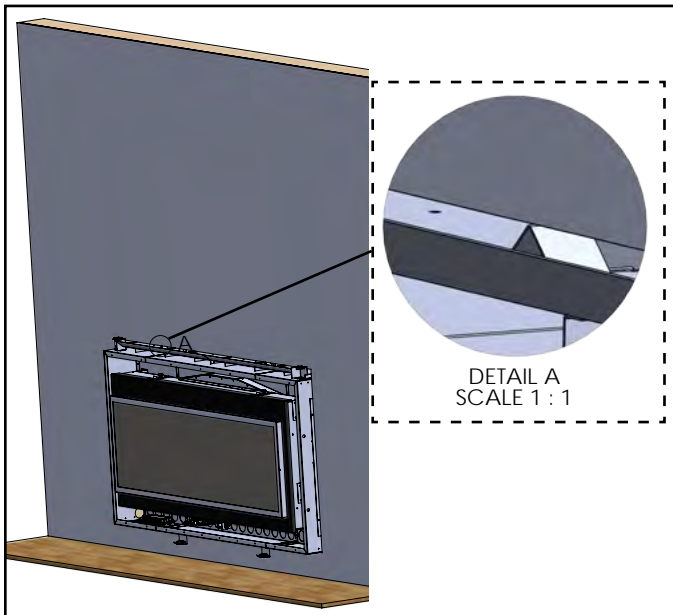

Figure 15.0.03
**Note:** The wallboard should extend down to the spacers located on top of the fireplace. See **Figure 15.0.03**.